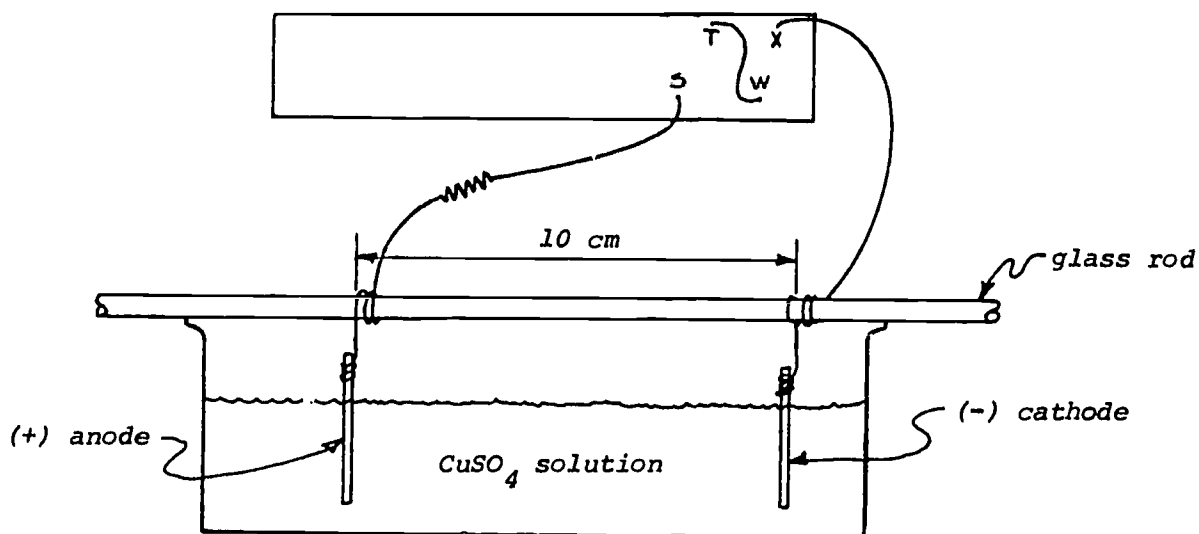

FIGURE 5: Completed electroplating set-up.
7. When you have attached the two terminals lay the glass rod over the top of your container so that the carbon rods hang down into the solution. Most of the rods should be immersed, but not the area where they are connected to the wires leading to the BIP. Your completed set-up should look like that in Figure 5, on the next page.